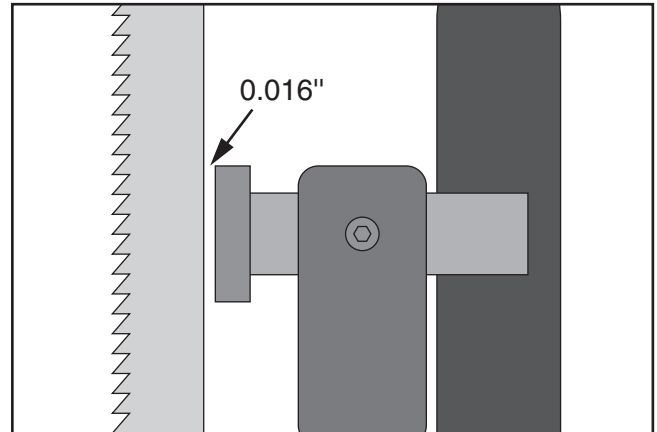

Figure 47. Bearing positioned approximately 0.016" away from back of blade.
3. Position support bearing approximately 0.016" away from back of blade, as illustrated in **Figure 47**.
Note: The roller-discs should be positioned behind the gullets at a distance equal to that of the support bearing behind the blade (see **Figure 47** on **Page 31**).